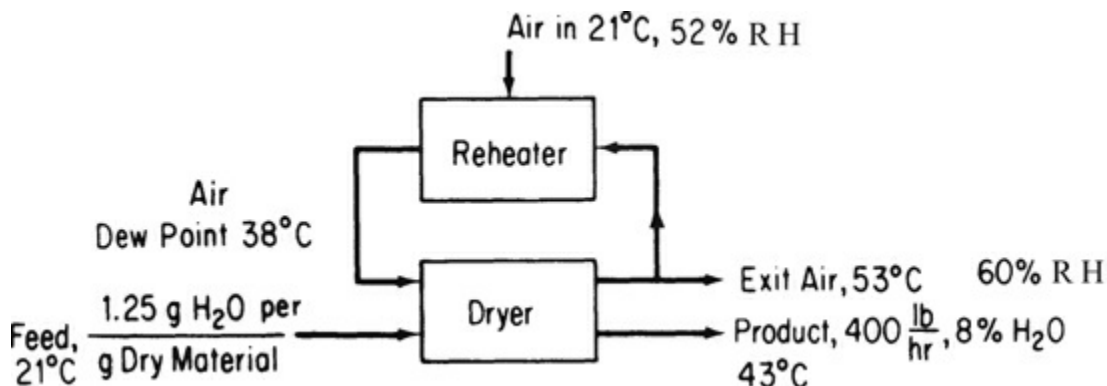

Figure P10.3.5
****10.3.5** A dryer produces 180 kg/hr of a product containing 8% water from a feed stream that contains 1.25 g of water per gram of dry material. The air enters the dryer at 100°C dry-bulb and a wet-bulb temperature of 38°C; the exit air leaves at 53°C dry-bulb and 60% relative humidity. Part of the exit air is mixed with the fresh air supplied at 21°C, 52% relative humidity, as shown in Figure P10.3.5. Calculate the air and heat supplied to the heater, neglecting any heat lost by radiation, used in heating the conveyor trays, and so forth. The specific heat of the product is 0.18.